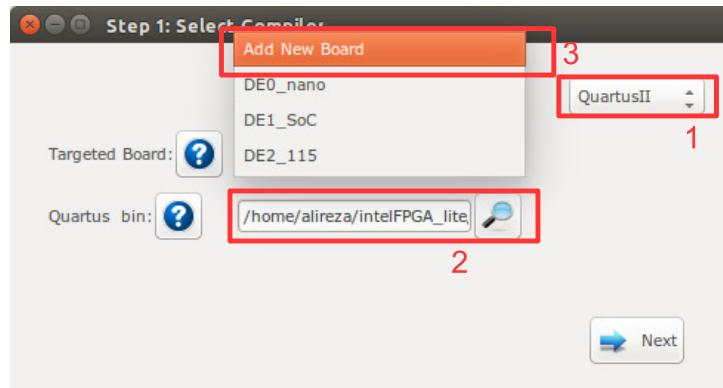

Figure 5.24: Select QuartusII as compiler.
1. Press Compile RTL button in right down corner. This should open "select compiler window" as shown in Figure 5.24. Select QuartusII as compiler tool.